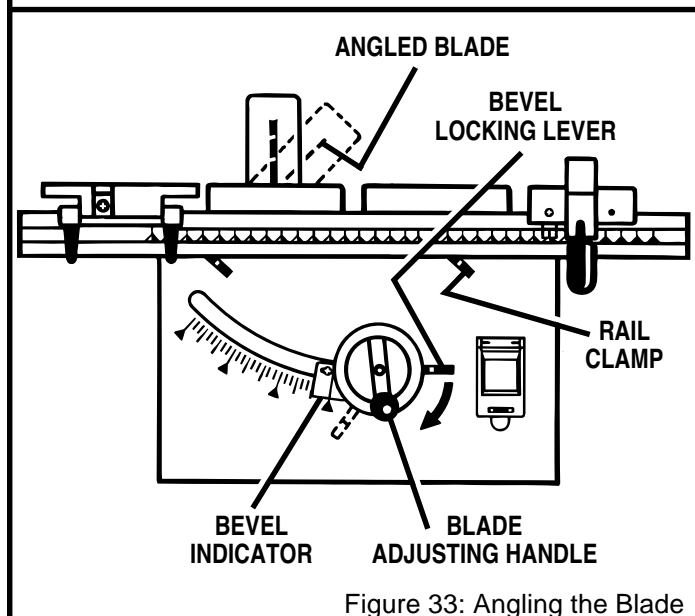

Figure 33: Angling the Blade
See Figure 33.
3. Loosen both front and rear rails by lifting the front and rear rail clamps. See Figure 33.